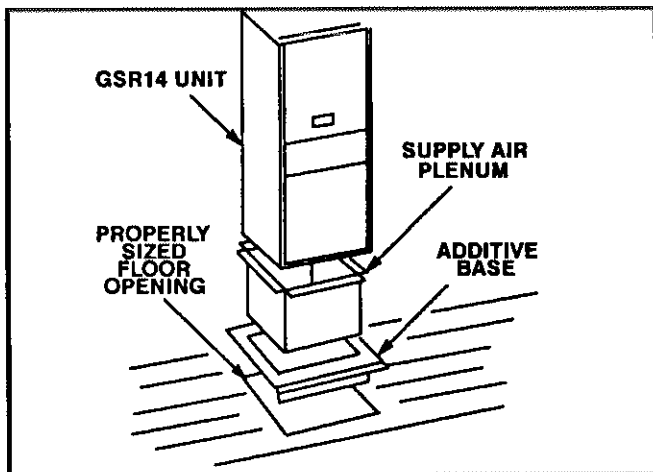

FIGURE 4
- 5- Set unit on additive base so unit flanges drop into plenum. Refer to figure 4.